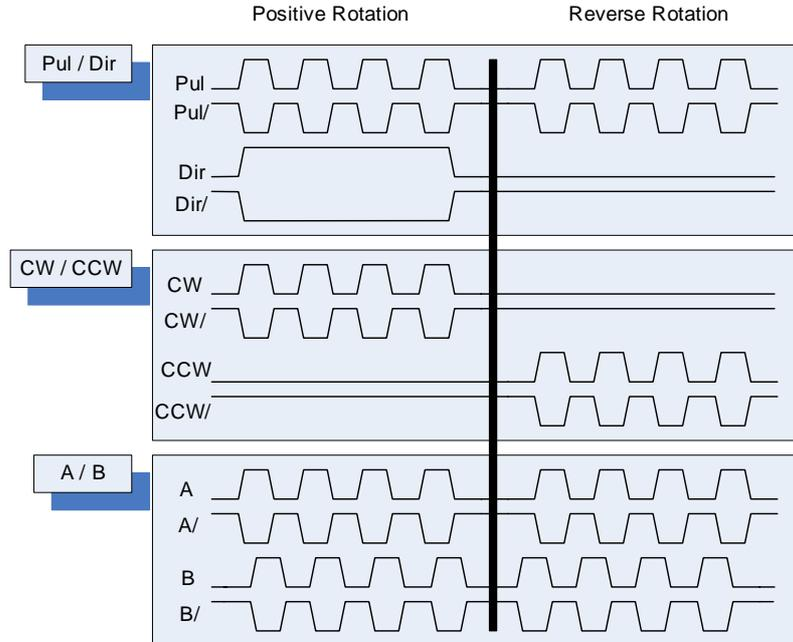

Fig. 3-8
- CMD Type: The command format of each axis, DASP-52506 supports the Pul/Dir, Cw/Ccw, and A/B command type. (Fig.3-8)